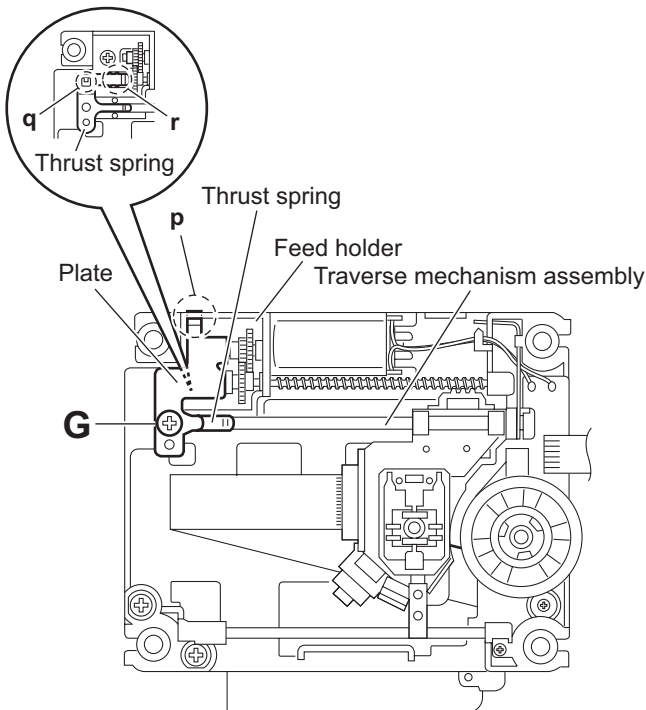

Fig.10
3.2.7 Removing the feed motor (See Figs.10 to 12)
- (1) From the top side of the traverse mechanism assembly, remove the screw **G** attaching the plate and thrust spring. (See Fig.10.)
- (2) Remove the engagement section **p** attaching the plate to the feed holder and remove the plate. (See Fig.10.)
- (3) Remove the engagement sections (**q, r**), remove the thrust spring. (See Fig.10.)